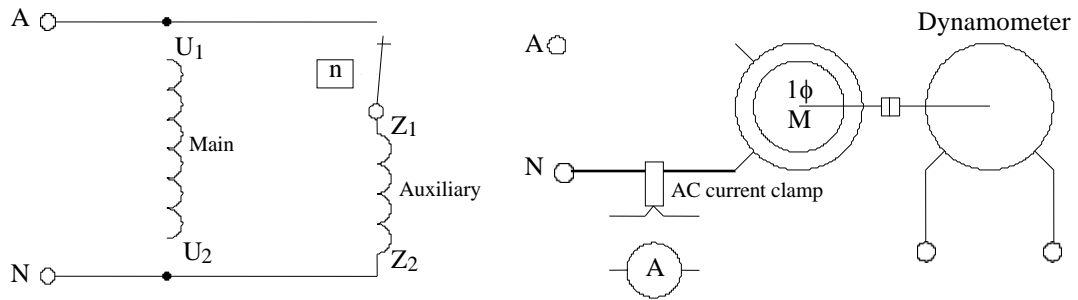

Figure 1
1. Connect the 24V split phase motor as shown in figure 1.